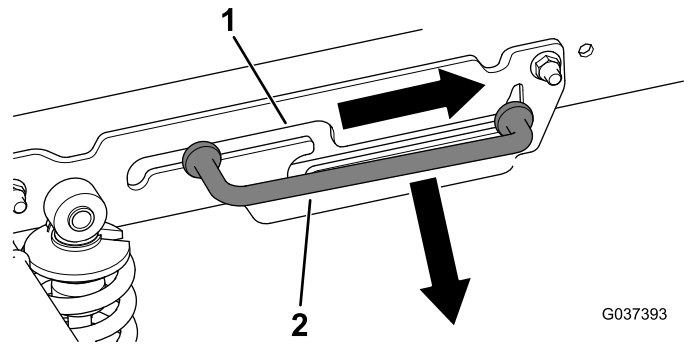

Figure 3
3. Slide the prop rod forward out of the detent slot and remove the prop rod (Figure 3).